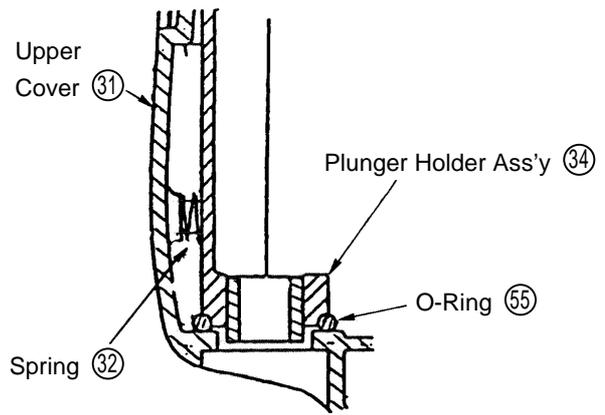

Fig. 17
- (6) When installing the Plunger Holder Ass'y (34) in the Upper Cover (31), ensure that the O-Ring (55) is properly mounted at the lower portion of the Plunger Holder Ass'y (34), as shown in Fig. 17. Also, ensure that the two Springs (32) are properly mounted between the Plunger Holder Ass'y (34) and the Upper Cover (31).